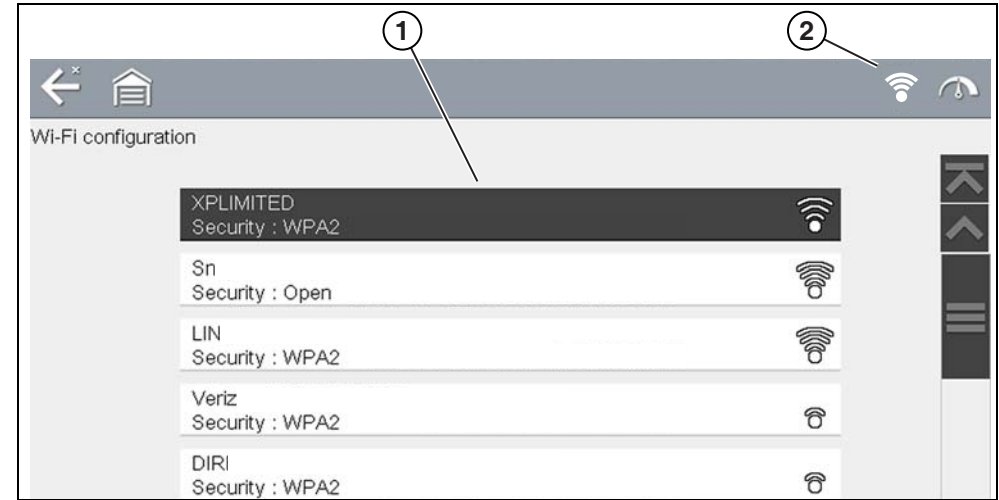

Figure 13-3 Wi-Fi Configuration Screen
- Select your network. Use the scroll feature to show all active connections (Figure 13-3).